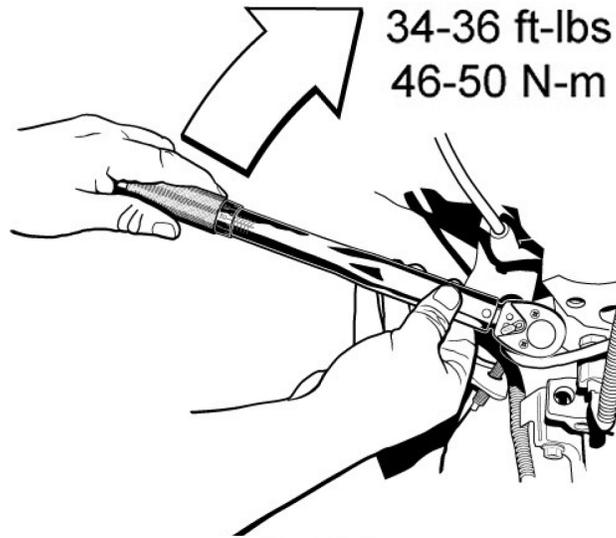

FIGURE 4
6. Start the new sensor in the bung by hand, and tighten to specifications (often 35 ft lbs) with a torque wrench. Do not over tighten the sensor (FIGURE 4).